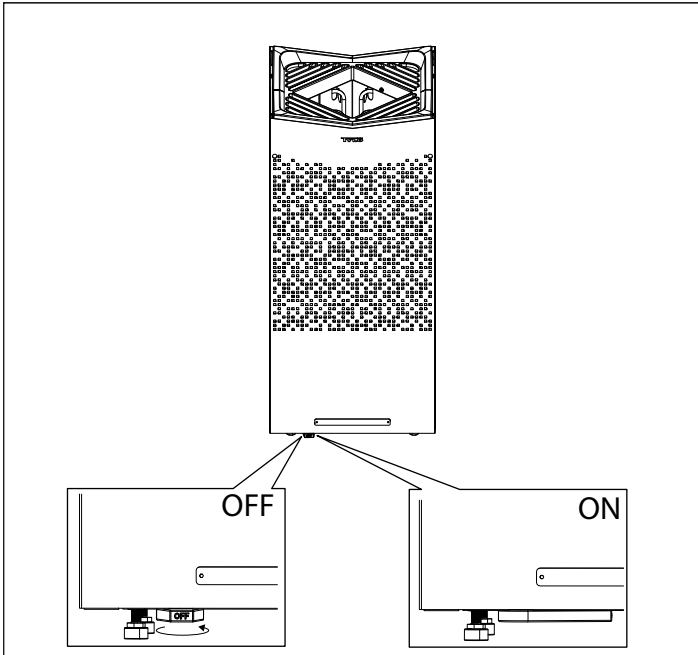

Figure 18: ON / OFF
2. Switch on the heater, use the lever, see figure 18